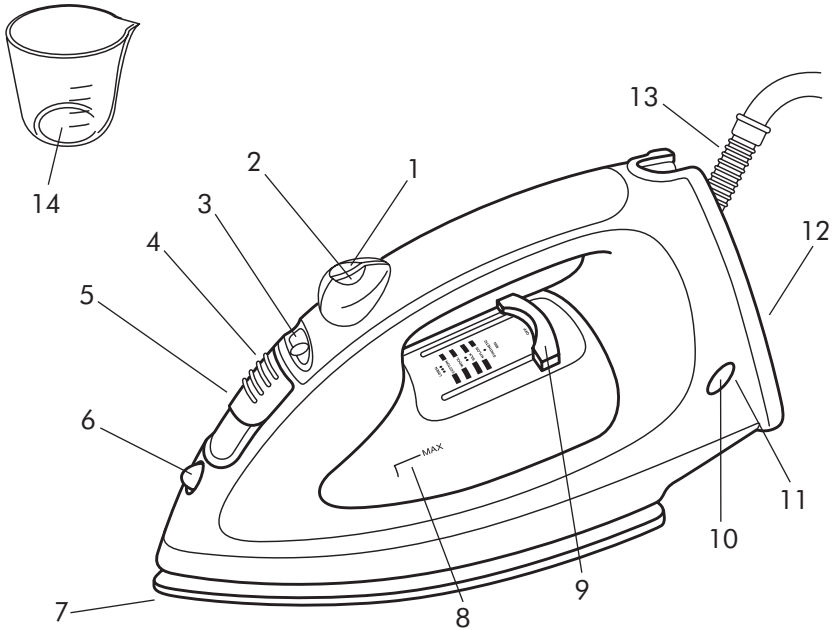

FIGURE 1
5. Fill to the MAX level as marked on the Water Tank (see FIGURE 1).